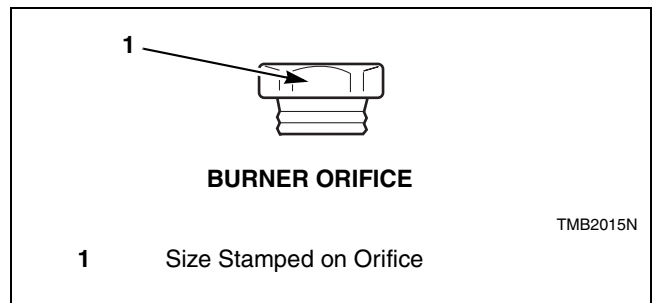

Figure 11
3. Install the new, correct burner orifices. Refer to *Figure 11*. Torque each to 9 – 10 Nm.